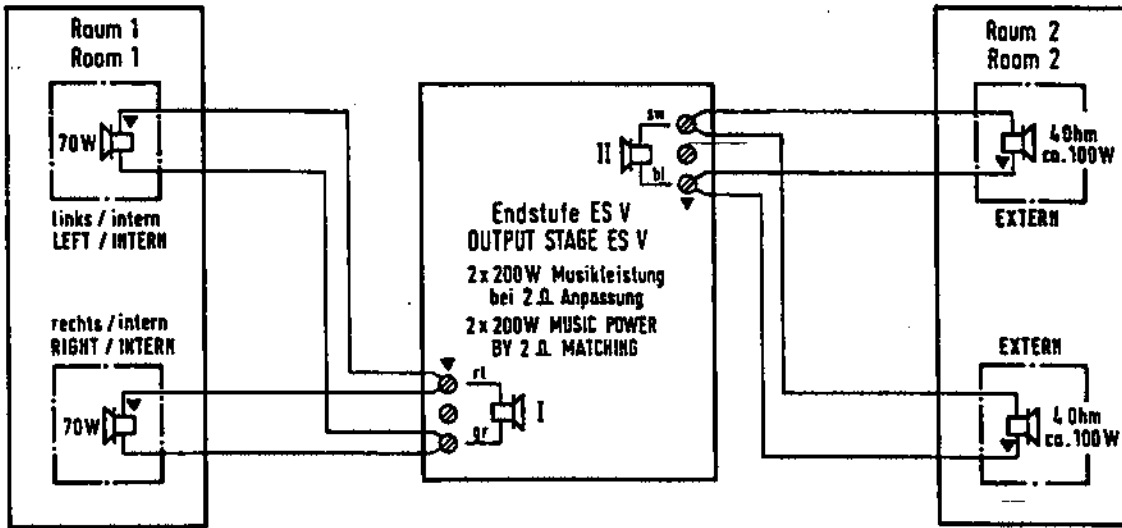

Figure 6: Mono mode with connected loudspeakers for separated rooms
**Sound system for separate rooms (Fig. 6)**